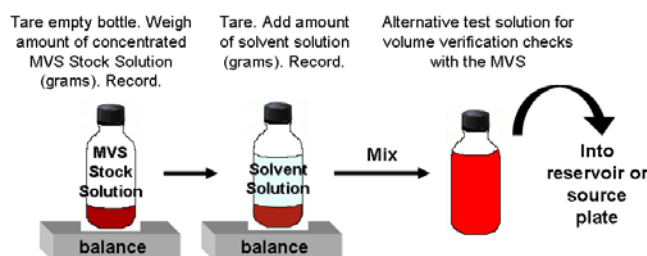

Figure 1. Overview for creating an alternative test solution by gravimetrically combining a solvent-of-interest and an MVS Stock solution.
Custom test liquids using assay-specific reagents can be prepared and employed to assess volume transfer performance of a liquid handler using the Artel MVS[®] Multichannel Verification System. Described herein are general methods for creating and testing custom test solutions, referred to as alternative test solutions¹. In general, an aqueous dye-based MVS Stock Solution is combined with a solvent-of-interest to create the alternative test solution (**Figure 1**)². The volume range for testing an alternative solution in specific plate types is shown in column three of **Table 1**.
- Prepare the liquid handler for testing the alternative test solution by pouring the alternative test solution into a reservoir or preparing a source plate (**Figure 1**).